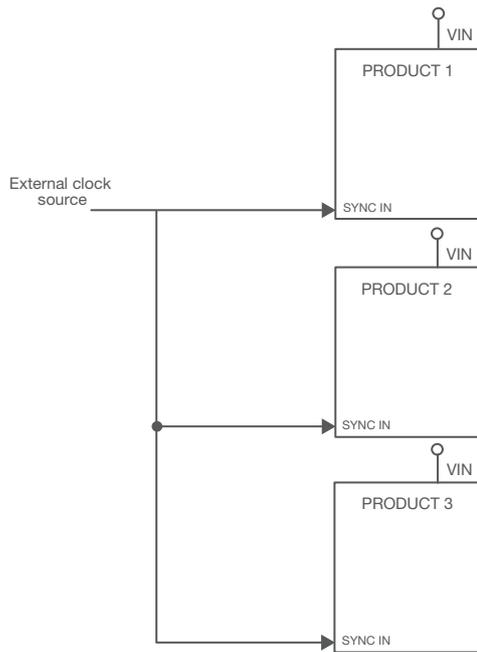

Figure 1. External single clock source.
1. External single clock source. The common switching clock is sourced from an external clock source within the system. The SYNC pin of each product in the group is configured as an input. See illustration in Figure 1.